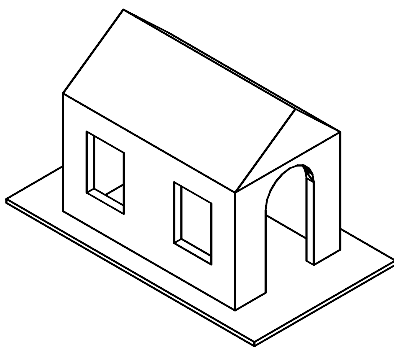

Figure 30-29 Model for Example 2
In this example, you will apply the point light at the lintel of the window and at the lintel of the door of the model, as shown in Figures 30-29 and 30-30. Choose your own materials to make the model look realistic and then render it.
1. Create the model shown in Figure 30-29.